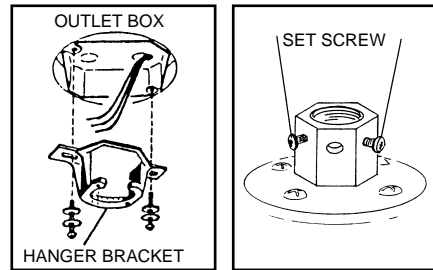

Fig.5
Step 1. Secure the hanger bracket to the ceiling outlet box using screws provided with the outlet box and flat washers included with the fan. (Fig. 5) Note: Optional wood screws are provided for mounting of hanger bracket directly to building structure.